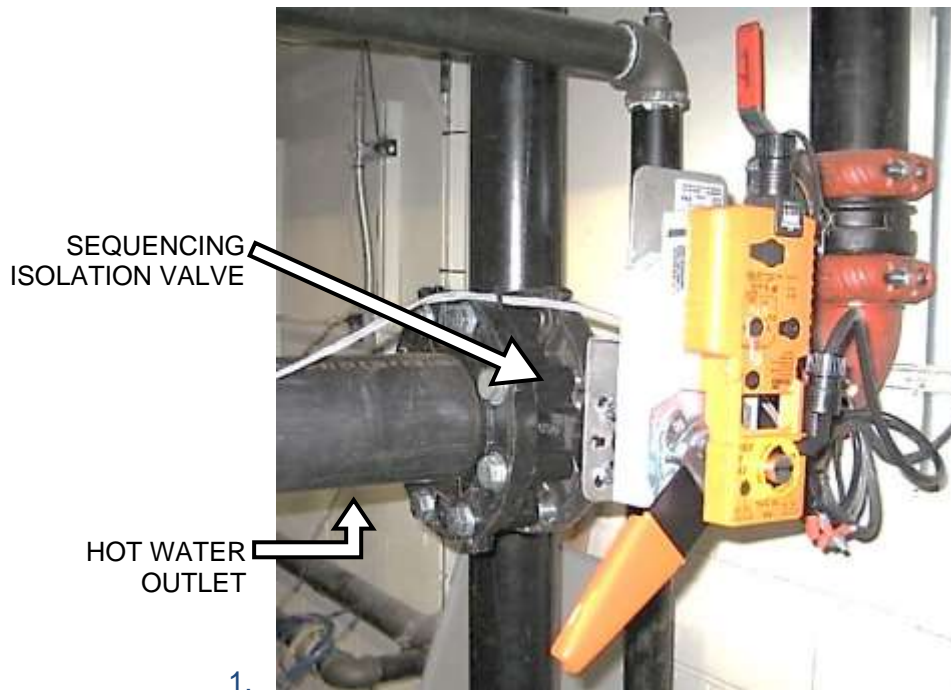

Figure 2-19: Sequencing Isolation Valve Installed
1. Install the sequencing isolation valve in the boiler's hot water outlet pipe (Figure 2-19).